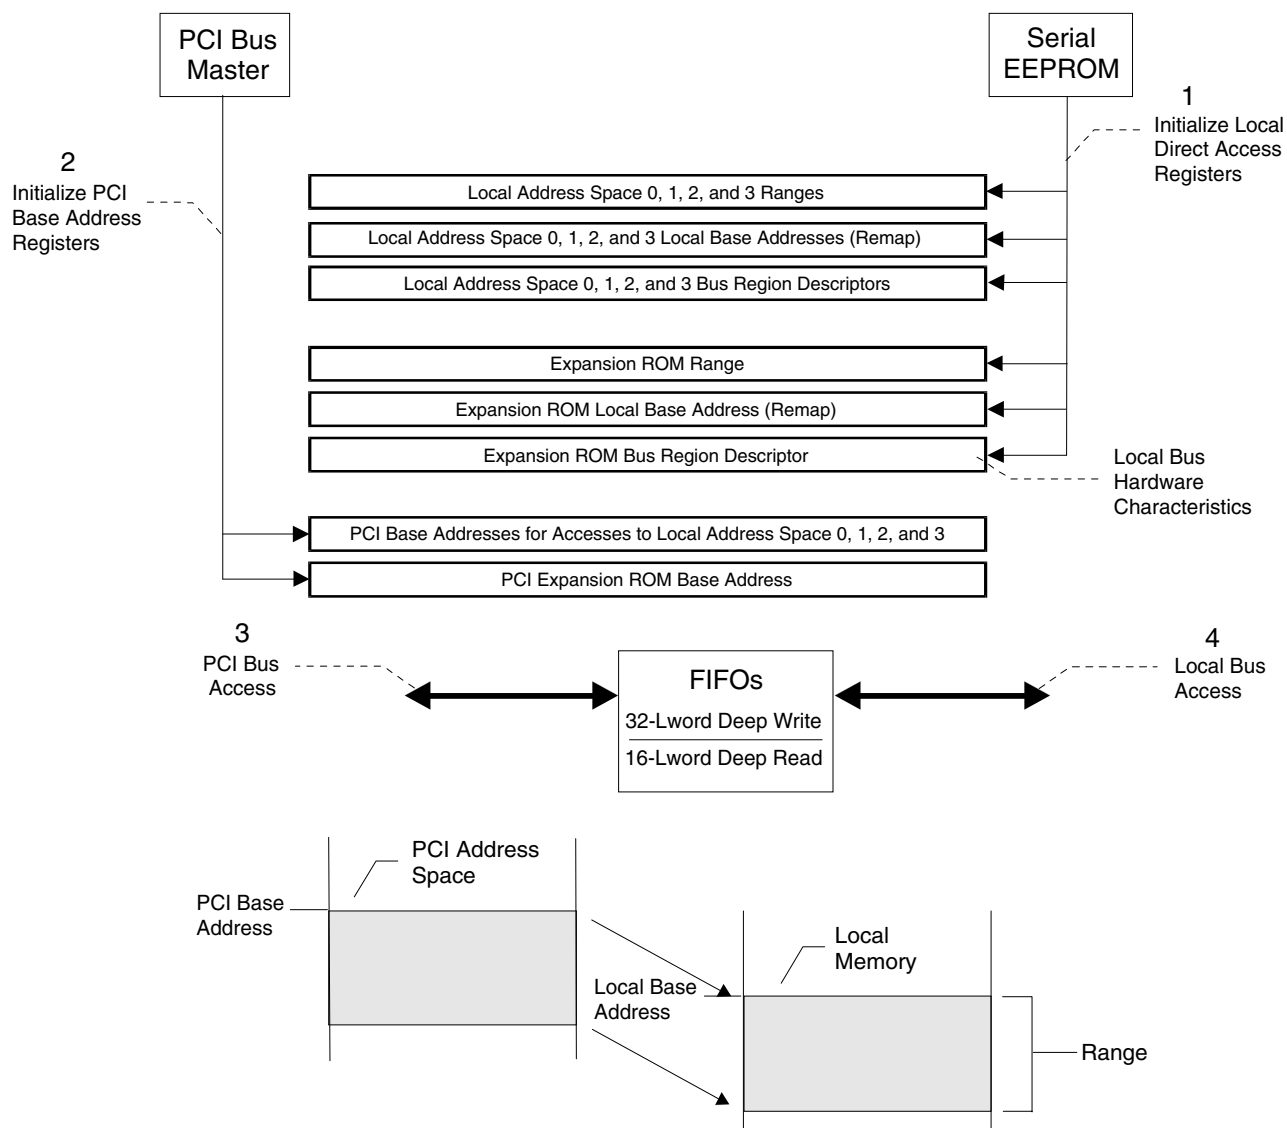

Figure 4-5. Local Bus PCI Target Access
A fourth register, the Bus Region Descriptor registers (LASxBRD and/or EROMBRD), defines the Local Bus characteristics for the PCI Target regions. (Refer to Figure 4-5.)
After a PCI reset and serial EEPROM load, the software determines the amount of required address space by writing all ones (1) to a PCI Base Address register and then reading back the value. The PCI 9030 returns zeros (0) in the Don't Care Address bits, effectively specifying the address space required, at which time the PCI software maps the Local Address space into the PCI Address space by programming the PCI Base Address register. (Refer to Figure 4-5.)